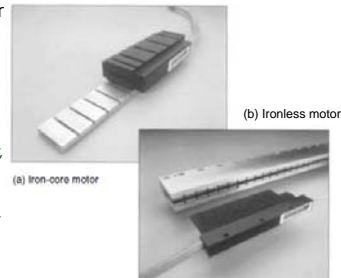

Figure 3.22 Electric linear motors.
- There are two basic designs for linear motors, the *iron-core linear motor* and the *ironless linear motor*, as shown in Figure 3.22.